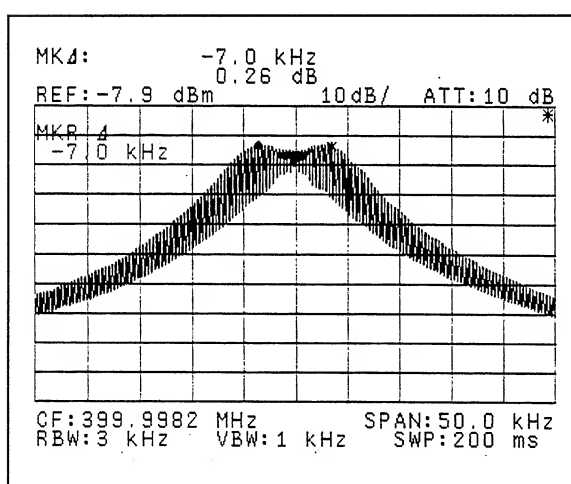

Figure 6-27 FM signal with small Δf_{peak}
- ③ Finally, move the Δ marker to the spectrum "shoulder" (see Figures 6-27 and 6-28). Call the Δ marker frequency Δf_{pp} . Then Δf_{peak} and modulation index m can be found from: